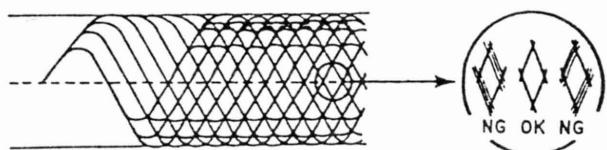

Figure 18
- Secure **Pierre Verany Disc #1** to the CD player's hub and start playing **Track # 1**. Adjust **VR302** so that the signal envelope at **TP2** shows the clearest diamond pattern. (See Figure 18). This pattern will not necessarily occur at the maximum amplitude.